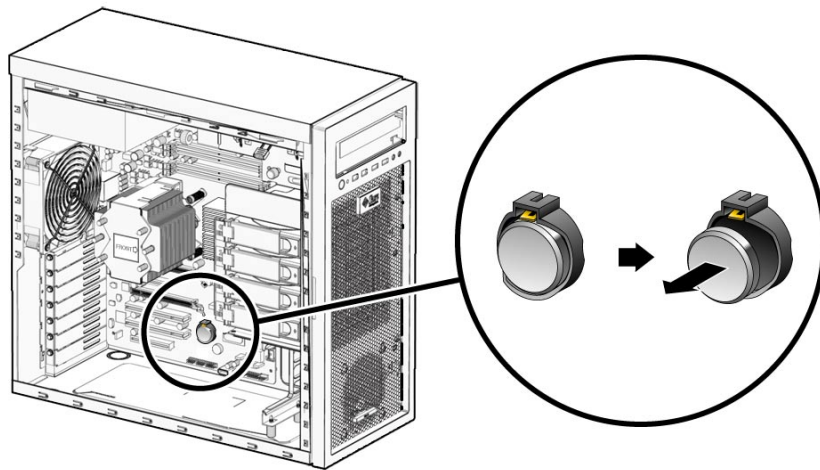

FIGURE 3–22 Removing the System Battery
- 4 Press the new battery with the positive sign (+) facing up into the battery holder (see Figure 3–23).